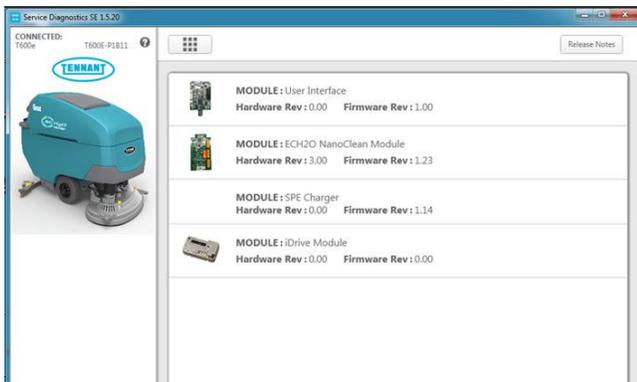

Fig. 13
- 8. The Service diagnostics tool will begin the process of configuring the new control board. The following screen will appear (Figure 13). During this process, the software may prompt for key cycles. Turn off key, wait a few seconds and turn key back on to continue. The process will also automatically update any machine firmware as needed.